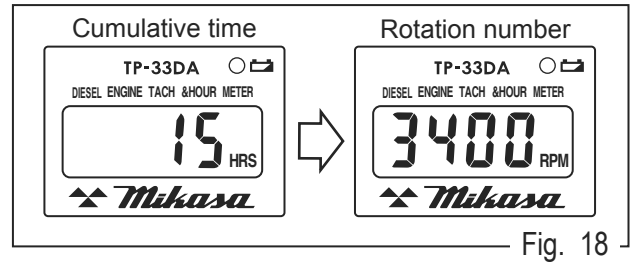

Fig. 18
d. If the engine starts, the “Engine RPM” will appear on the Tach/Hour meter. (Fig. 18) Once the engine speed increases, the buzzer stops. The engine comes with a safety starter switch. If the travel lever is not in the stop position, the cell starter will not work.